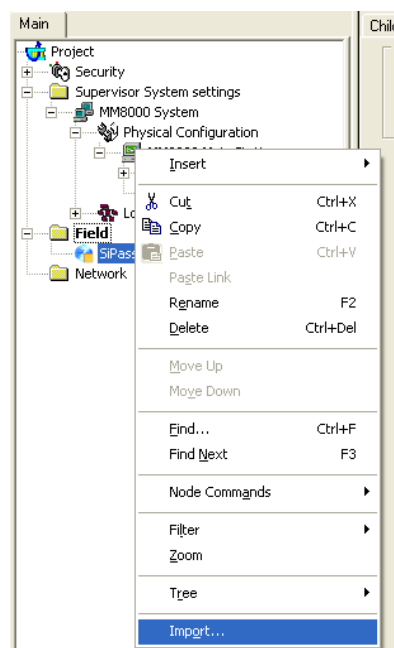

Fig 9 Start SiPass off-line import
2. Select **Tools**→**Import** or right-click the SiPass node and select Import (Fig 9).